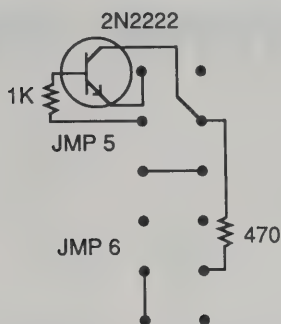

Fig. 4 — Jumper configuration for ICOM radios, transistor method.
6 provides a direct ground to the center-right pin of JMP 6 (E), while the VN10 next to JMP 5 provides a ground through the 470-ohm resistor to that same pin. That pin is connected within the modem to pin 3 of J4, the uhf radio jack. In your interface cable J4 pin 3 should be connected to pin 3 of the radio microphone jack. Several builders have tried a different type of FET than that shown (VN10's) without success. A second method is shown in Figure 4. This method uses a 2N2222 to obtain the solid ground necessary to make the radio step UP, and the internal resistance of the optical coupler to make it step DOWN. Note here also that only J4 pin 3 is connected to the radio microphone jack. A third method takes advantage of the fact that the MicroSat orbit dynamics will almost never result in a need to have the radio to step UP (according to the experts). If you are willing to live with no ability to step UP, the easiest way to get this neat little box on the air fast is to install the push on jumpers as described in the manual for radios that want to see a ground (page 43, Figure 12) and wire the DOWN output (J4 pin 3) to pin 3 of the radio microphone connector. The PSK modem will send a ground through the optical coupler, and it will be close enough to the desired 470 Ohms that the radio will step DOWN very nicely! This is the method I'm currently using. I have not measured the actual resistance in the optical coupler, and it will probably vary depending on the actual component in the modem kit, so I do not recommend this as a permanent solution. But it should get you on the air with AFC quickly.